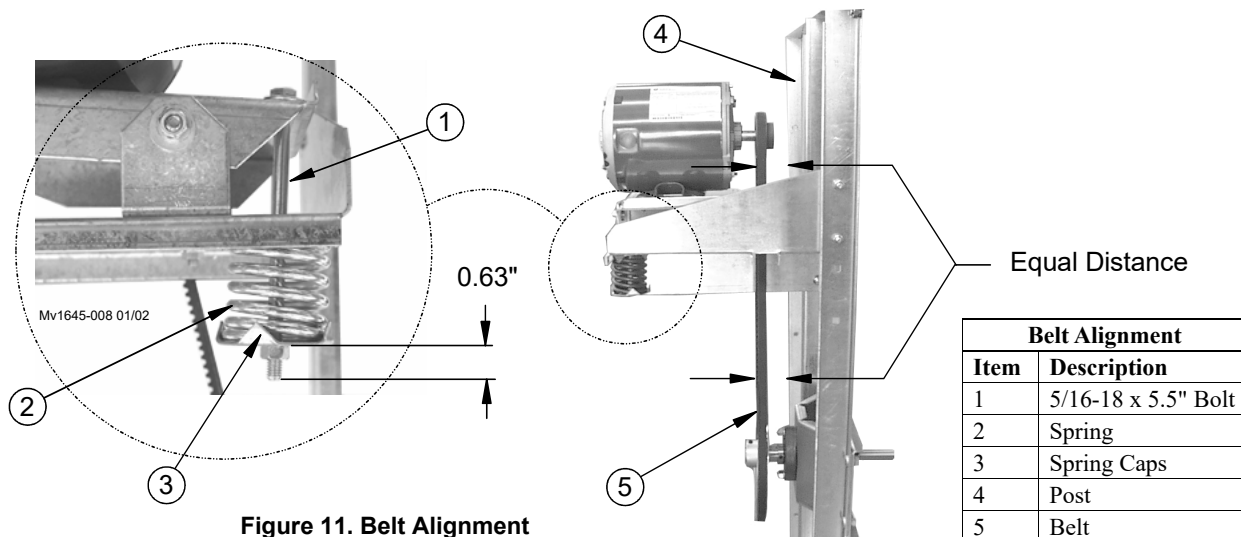

Figure 11. Belt Alignment
3. Measure from the Post to the belt as shown to make sure that there is equal distance. Lay a straight edge across the posts to get the measurement if necessary. (See Figure 11)
4. Tighten the 5-16-18 x 5.5" Bolt (Item 1, Figure 11) until the measurement from the end of the Bolt to the Bottom Spring Cap (Item 3) is .63" [16 mm] as shown in Figure 11.